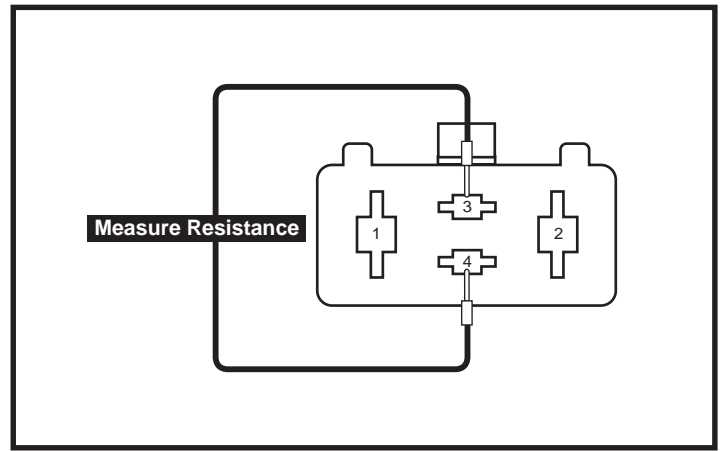

Figure 21. Connector 8a
3. Measure resistance from pin 3 to pin 4 on connector 8a. See **figure 21**.